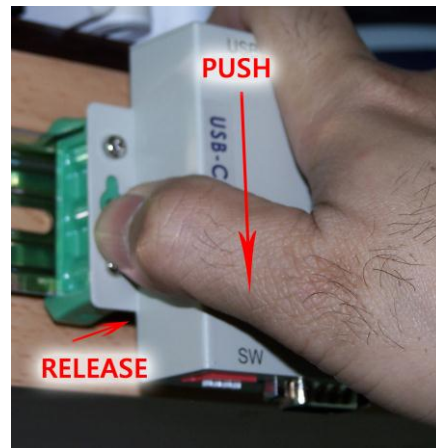

Fig.4
1. Push downward the top of the mounting device to release the two bottom clips from the rail (Fig.4)
2. Push upward to remove the top clips from the rail (Fig.4)